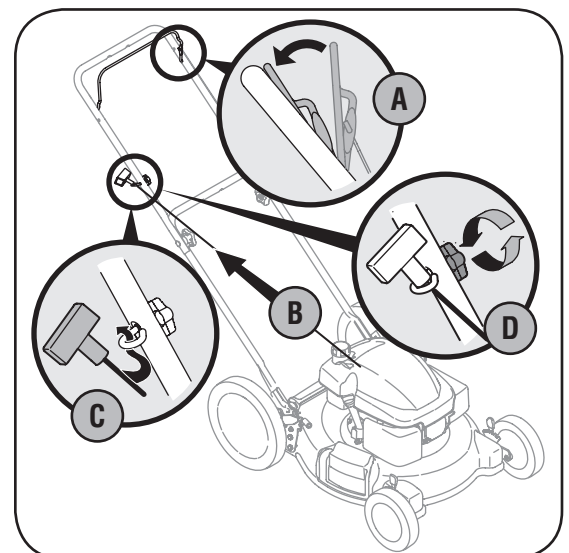

Figure 3-4
- Rope guide Setup as follows, see Figure 3-4:
- Insert post on cable ties into holes provided on the lower handle. Pull cable tie tight and trim excess. See Figure 3-4.